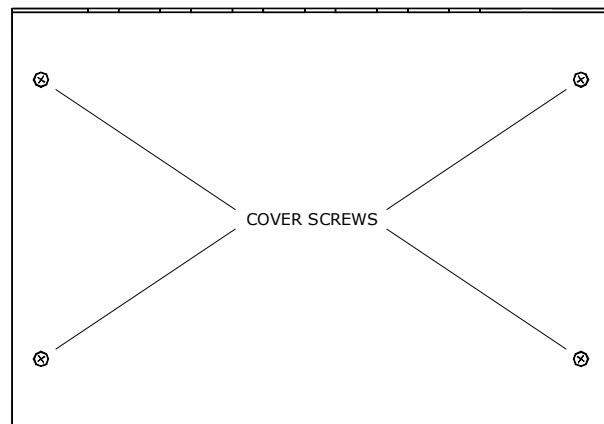

Figure 11 Command Modules.
13. Remove the cover of the Command Module by unscrewing the four screws located at each corner on top of command module (see **Figure 11**).
21. Place the cover back onto the command center and tighten down the four screws. Do not over tighten the screws (see **Figure 11**).